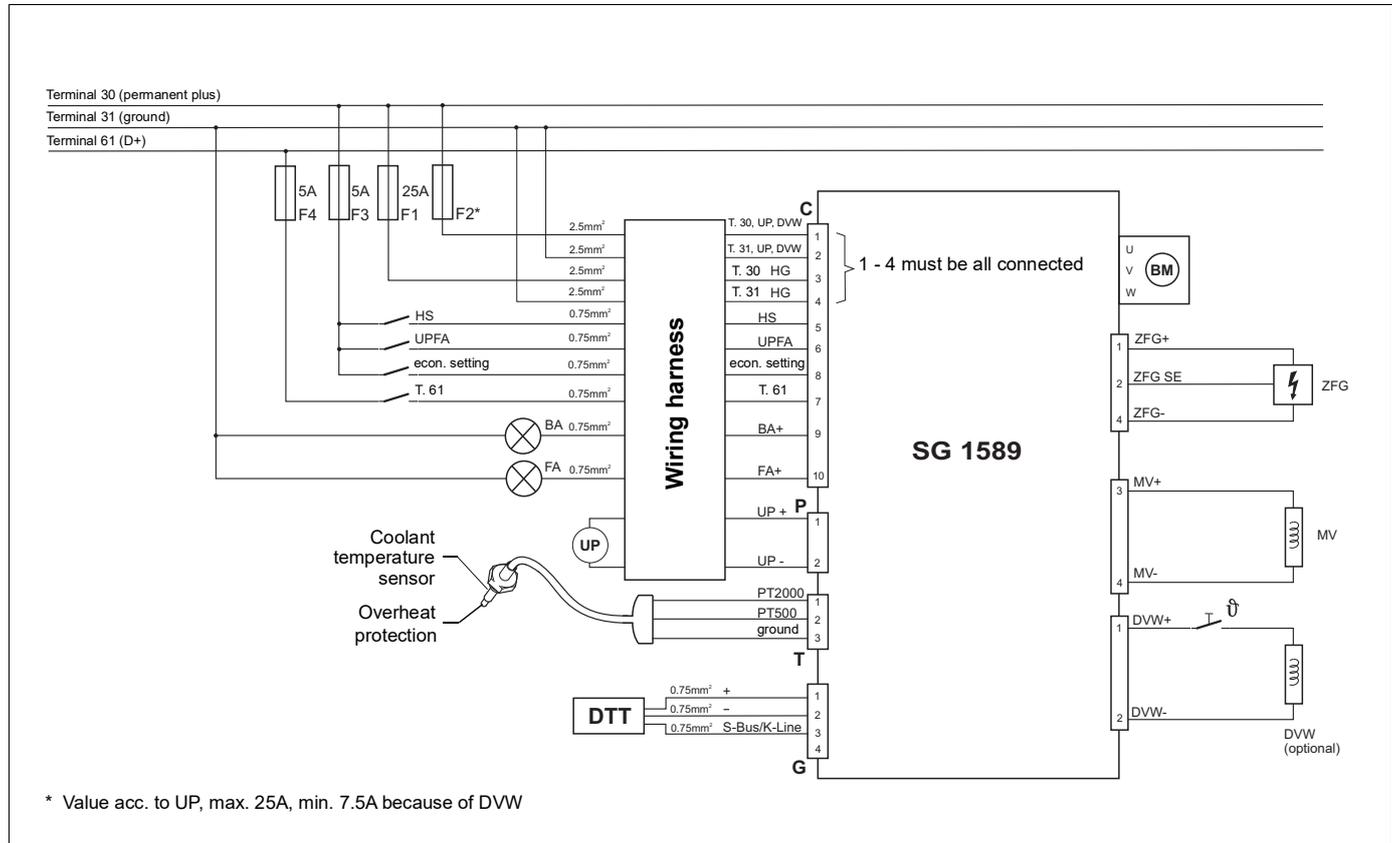

Fig. 7: System wiring diagram for the Diesel burner head of Thermo H plus with switch, legend see page 58
- Switch, see system wiring diagram Figure 7